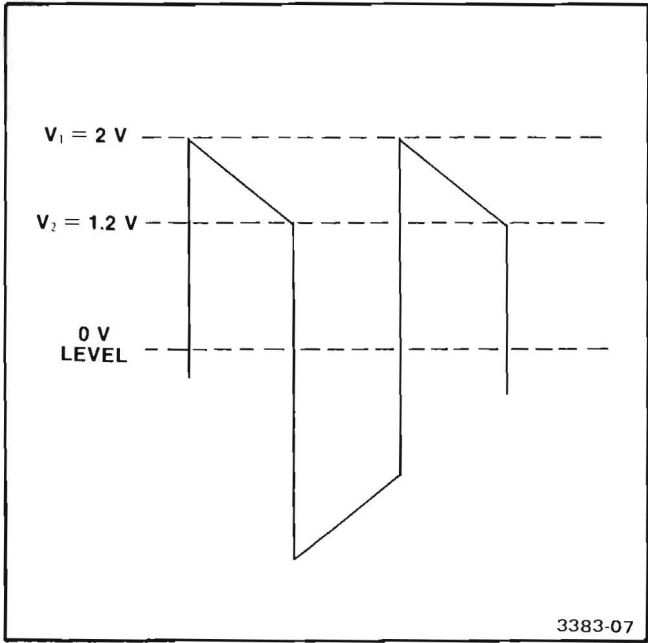

Fig. 2-6. Typical low frequency response curve.
- 2. Slowly reduce the square-wave frequency and adjust the oscilloscope (amplifier) controls to display a signal similar to Fig. 2-6.
For example; if the applied frequency, F_a, is 10 Hz and the amplitude values shown in Fig. 2-6 are used, the lower cut-off frequency is calculated to be about 1.6 Hz.